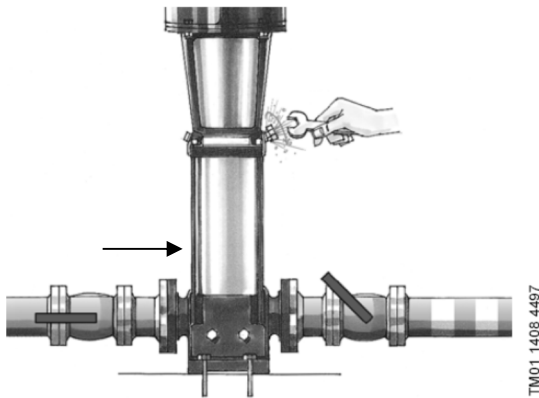

Fig. 10 Venting the pump
In case of systems with a positive inlet pressure close the isolating valve on the discharge side. Then remove the filling plug at the pump head until water runs out of the hole, see fig. 10. Open the isolating valve on the suction side slowly, if any. If the liquid runs out of the hole, screw in the filling plug again. Afterwards open both isolating valves completely.
6. Vent the pump via the filling plug again, see fig. 10. After venting the pump fasten the filling plug again.